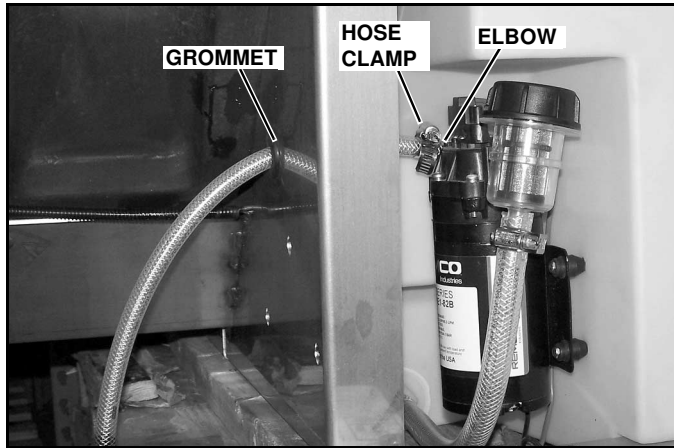

Figure 1-8
7. Run the open end of the hose through the rubber grommet in the spreader leg, from the tank side. Mount the pump fitting back on and slide the lock back down. (See Figure 1-8)